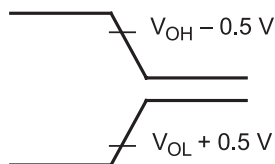

Figure 12
- 14 The data hold parameter, tDHW, is measured to disable levels shown in Figure 12, rather than to the traditional data invalid levels.